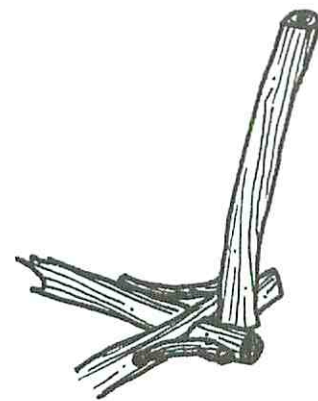

Figure 4
Put the frame you have constructed face down on your workbench. Position one of the legs (B) on one of the inside corners of the table frame. (Note: If the legs are very straight, you may want to place them on the outside corners of the frame, as in Fig. 4.) Connect the leg to each side of the frame using lag bolts.